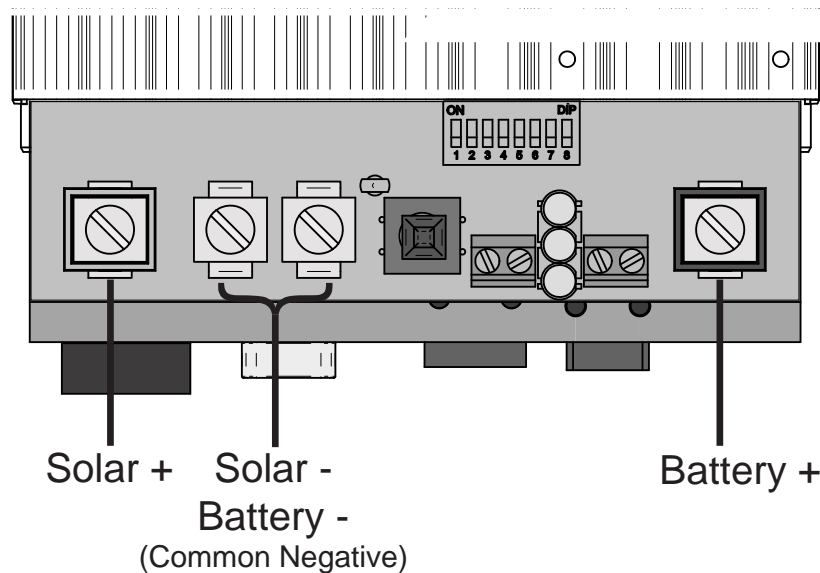

Figure 3-7. Power terminal locations
Connect the four (4) power conductors shown in figure 3-7 above in the following steps: